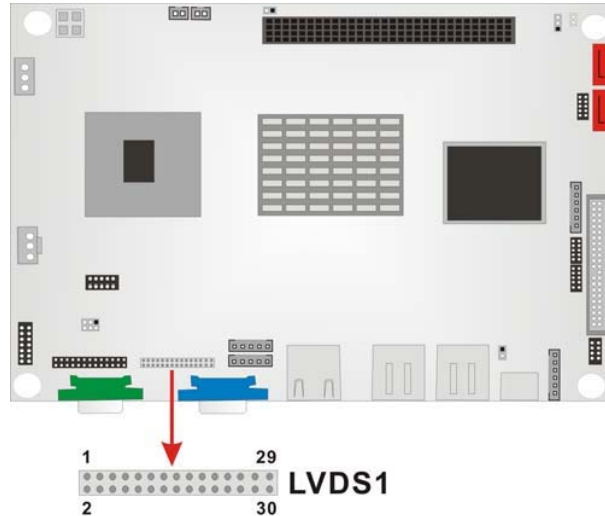

Figure 3-17: LVDS Connector
- CN Location:** See Figure 3-17